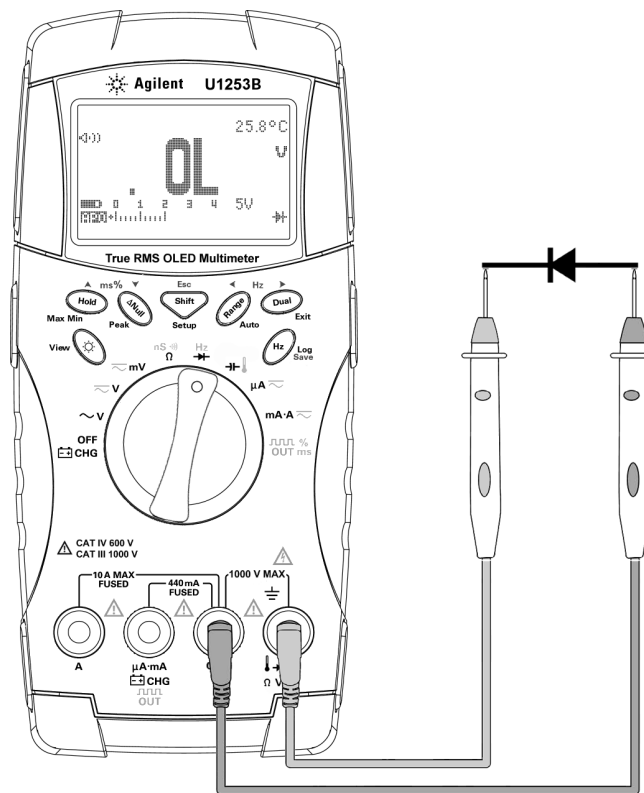

Figure 2-13 Measuring the reverse bias of a diode
- 5 Reverse the probes and measure the voltage across the diode again (refer to Figure 2-13 on page 49). Assess the diode according to the following guidelines: